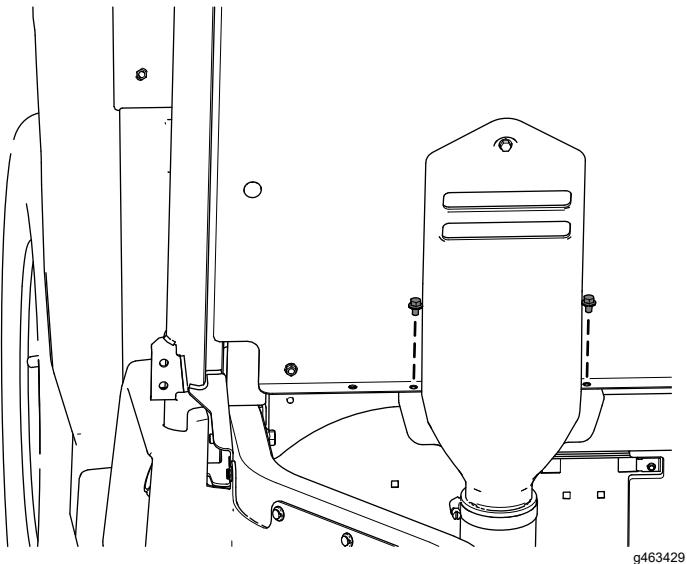

Figure 67
G. Secure the bottom of the CVT-intake hood to the seat panel using the previously-removed 2 flange-head bolts (1/4 x 3/8 inch) as shown in Figure 67.